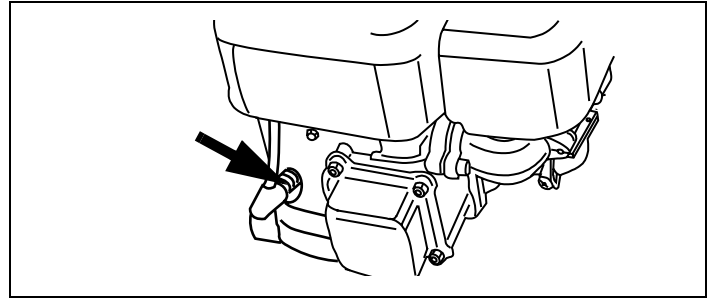

Figure 25. Typical Spark Plug Connection
1. Carefully disconnect spark plug wire and keep it away from spark plug. See Figures 25 and 26.